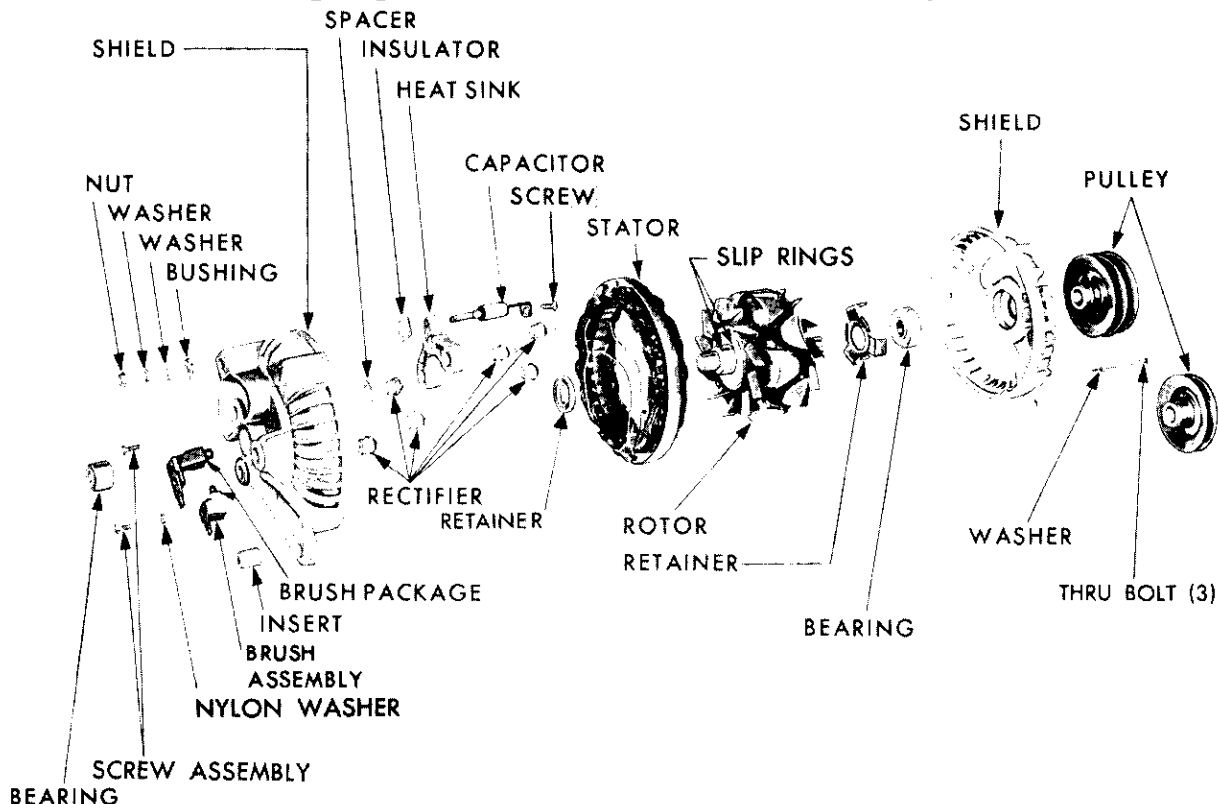

Fig. 1—Isolated Field Alternator (Disassembled View)
The alternator (Figs. 1 and 2) is fundamentally an A.C. current generator, with six (6) built-in silicon rectifiers, that convert A.C. current into D.C. current. D.C. current is available at the "output" "BAT" ter-